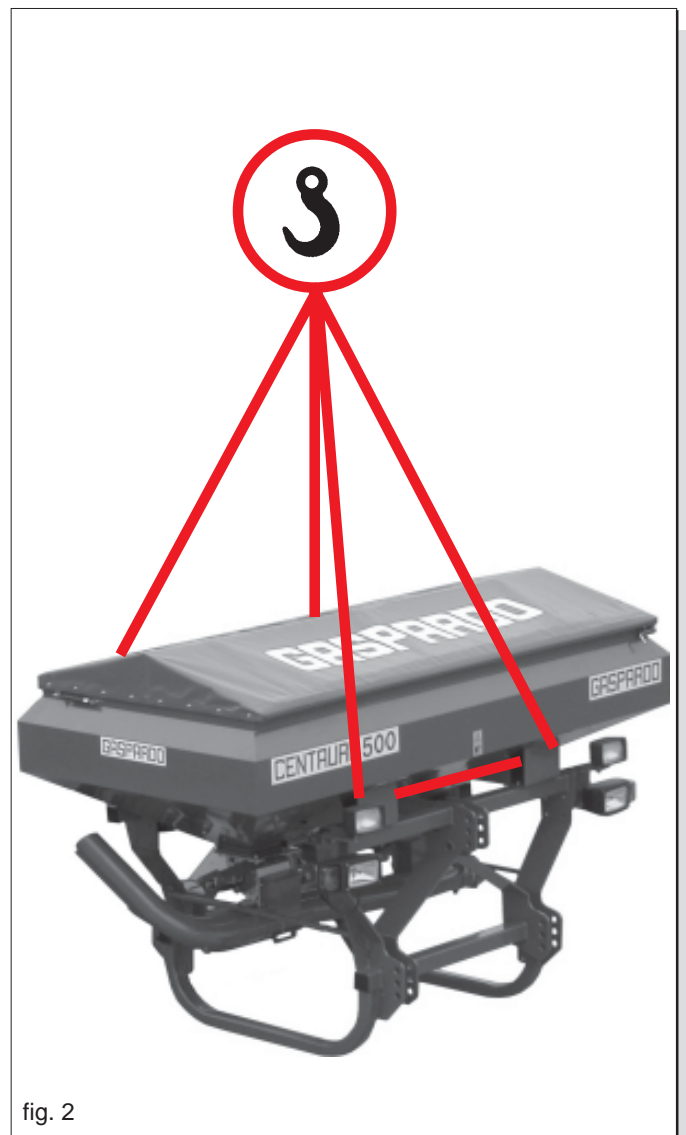

fig. 2
When moving the machine, raise it and hook it to the special couplings (Fig. 2) using a forklift with a capacity of at least 5 tons. As this operation is dangerous, it must be carried out by trained, responsible personnel. The machine weight is shown on the identification label (Fig. 1).
1.6 ASSEMBLY DRAWING (fig. 2)